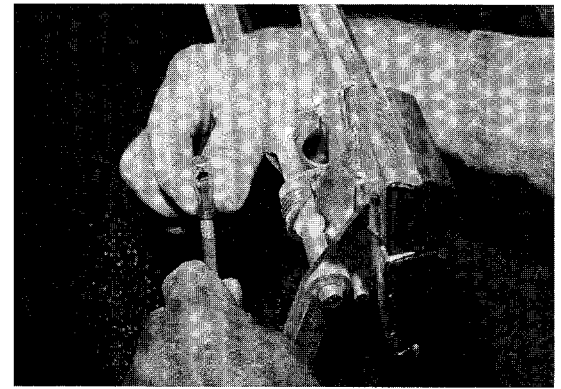

Figure 13-11
6. To adjust park brake rod, snap ball joint from park brake pedal and rotate ball joint. Rotate ball joint clockwise to increase pawl to latch engagement, counterclockwise if accelerator pedal does not return to original position with park brake locked (Figure 13-11).